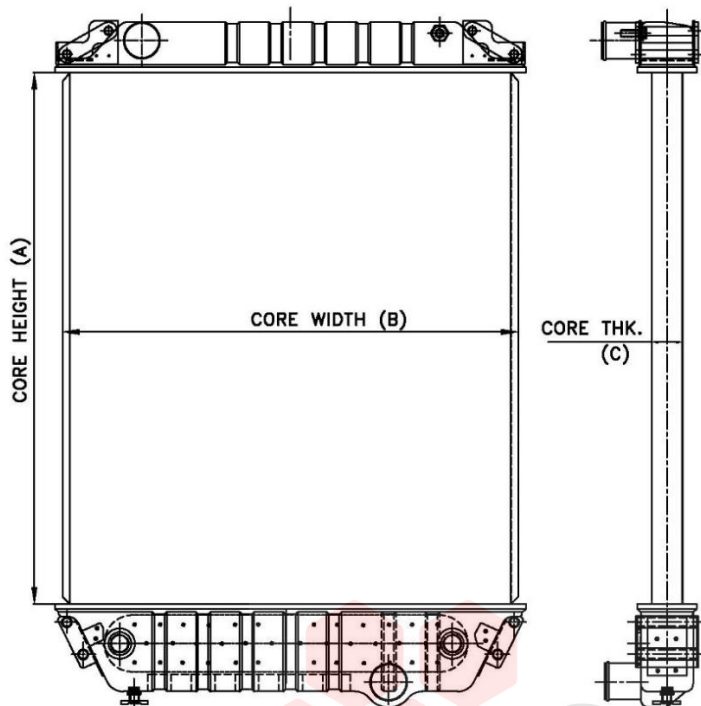

fig. 1
- a. Measure the height: As you can see from the diagrams, the core height on a down flow radiator is measured from top to bottom; the "height" on a cross flow radiator is measured from side to side. An easy way to remember this is that CORE HEIGHT IS ALWAYS MEASURED BETWEEN THE HEADERS, no matter how the radiator sits in the truck. Core height is represented by measurement (A) in the diagrams (fig 1 & fig 2).
- b. Measure the width: The measurement is over the side channel. The width is represented by (B) in the diagrams (fig 1 & fig 2) for both CROSS FLOW and DOWN FLOW radiators.